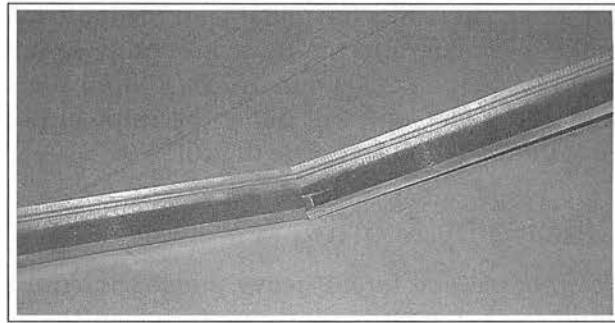

Figure 1-28. Two sticks of bottom plate being spliced together.
2. Next, place the splice against the end of the plate already shot in place. Figure 1-28 shows two sticks of